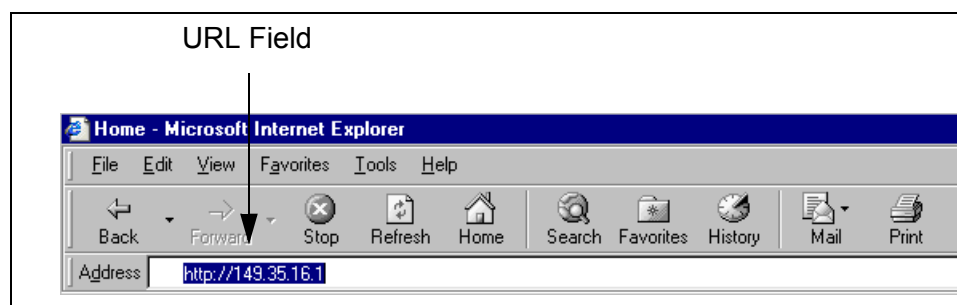

Figure 13. URL Field in a Web Browser
1. Enter the IP address of the management card in the URL field of your web browser, as shown in Figure 13. If the AT-CV5000 Chassis has two management cards, enter the IP address of the active card.